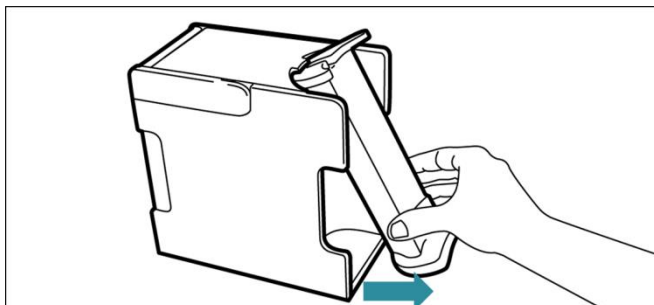

Fig. 28
20. Remove the holder for the external canister „Bag“ from the device by grasping it at the bottom in the middle and pulling it out of the canister fitting over the rack on the bottom (Fig. 28). Dispose of the holder for the external canister "Bag".